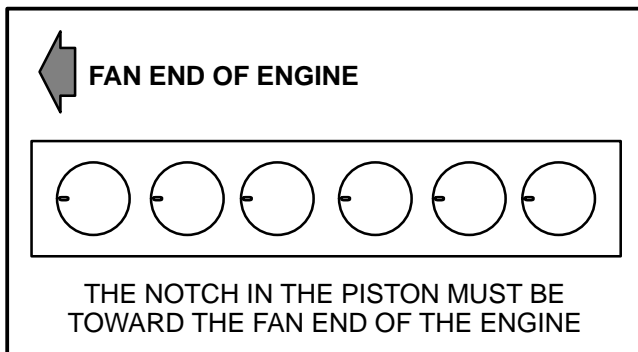

FIGURE 33. POSITION OF THE PISTON IN THE CYLINDER
**NOTE:** There are notches cast in the top of all pistons to indicate the correct assembly and installation. The pistons must always be installed with this notch toward the fan end of the engine. See FIGURE 33.
2. Make sure that the notch in the piston is toward the fan end of the engine as shown in FIGURE 33. Install the piston and connecting rod assemblies in the cylinder bores.